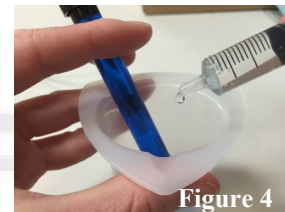

Figure 4
5. Titrate by adding the TA dropwise from the burette (**Figure 4**).